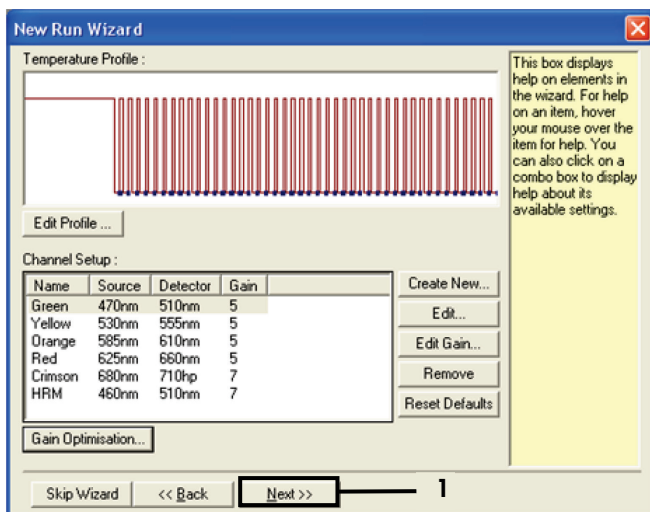

Figure 32. "Next" (1).
15. Click **Next** (Figure 32). Click **Save Template** to save the *therascreen* EGFR RGQ PCR Kit template (\*.ret file) in an appropriate location.